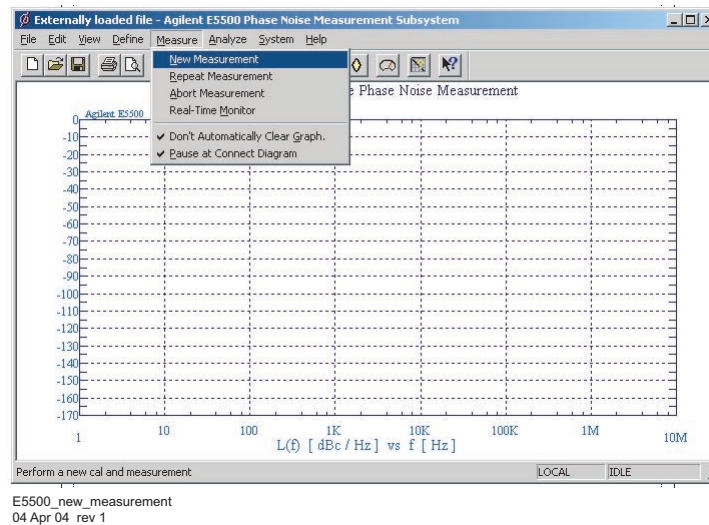

Figure 255 Selecting a new measurement
- 1 From the **Measurement** menu, choose **New Measurement**. See Figure 255.